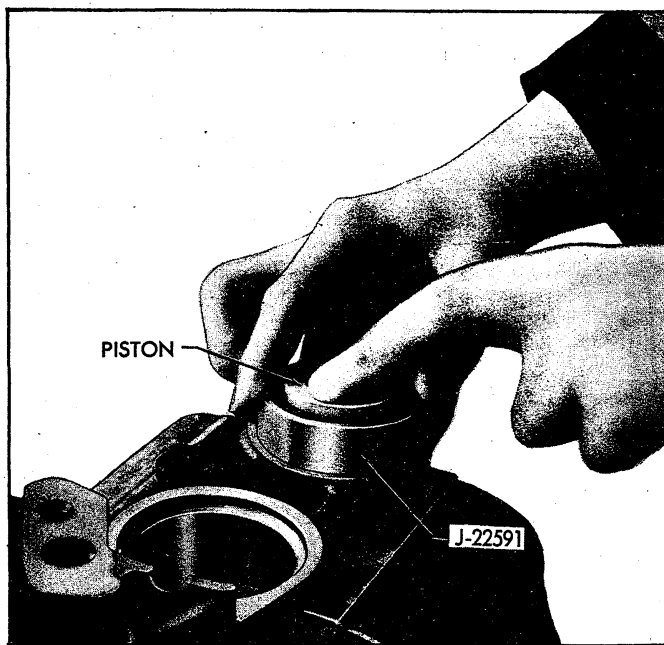

Fig. 40—Installing Piston in Caliper Bore Using Tool J-22591
4. Install the piston assembly in the bore using applicable piston rign compressor Tool J-22639, 22629 or 22591 as shown in Figure 40. Use care not to damage the seal lip as piston is pressed past the edge of the bore.